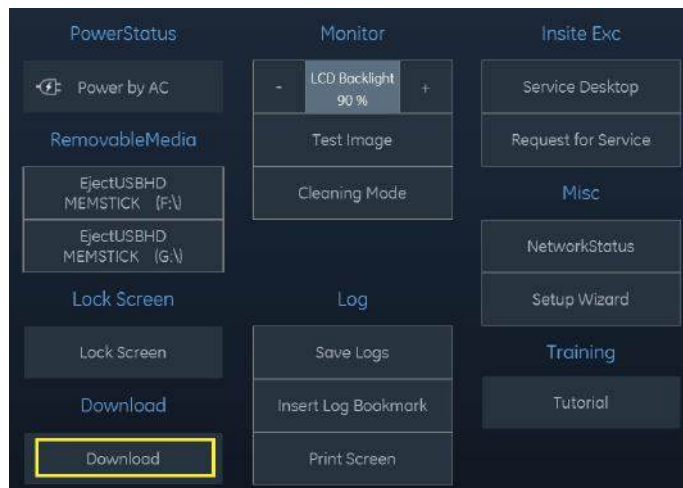

Figure 14-24. Press Download Button
2. Press the **Download** button at the top right of the display screen (Figure 14-24), or go to **About** page to press **Reload Software** button (Figure 14-25).